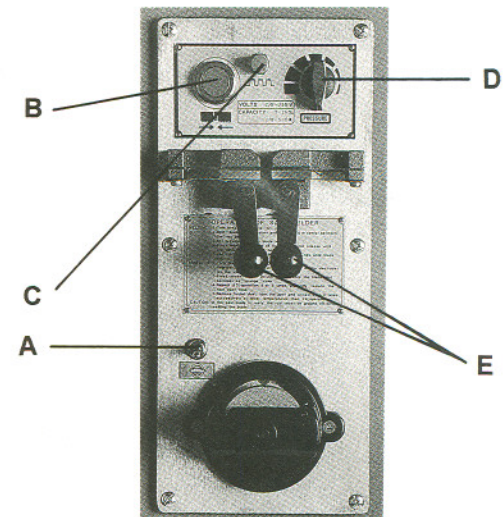

Fig. 5
**Grinder Toggle Switch (A, Fig. 5)** - located on blade welder panel found on column front. Flip switch up to start grinder; flip down to stop grinder.
**Weld Button (B, Fig. 5)** - located on blade welder panel found on column front. Depress and hold to start welding. Shuts off automatically when weld is done. Release when weld is completed.
**Anneal Button (C, Fig. 5)** - located on blade welder panel found on column front. Depress and hold to anneal blade, release to stop.
**Blade Clamp Pressure Knob (D, Fig. 5)** - located on blade welder panel found on column front. Sets pressure for different width blades.
**Blade Clamps** (E, Fig. 5) - located on blade welder panel found on column front. DOWN position allows insertion of blade into clamp. UP position locks blade.